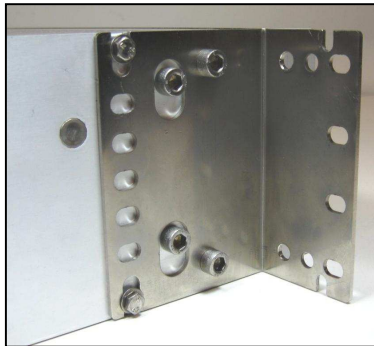

Fig. 1 – Mounting Bracket Position for ETSI Installation
- Install mounting brackets on each side of the unit as shown in fig. 1.